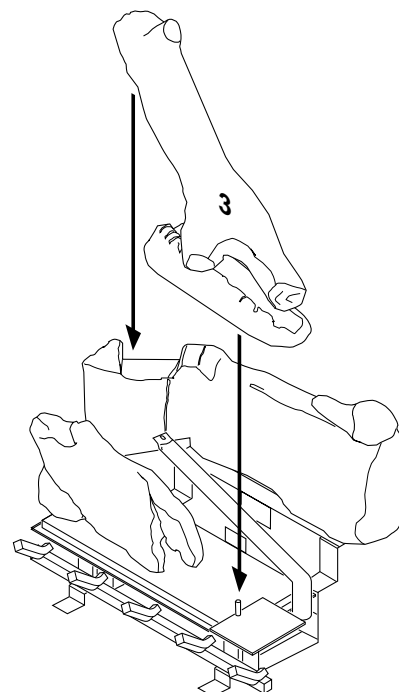

Figure 55- Installing Log Assembly No. 3
3. Place log #3 (crossover assembly) onto the front right pin on front burner with the crossover log resting in notch on back log (see Figure 55).